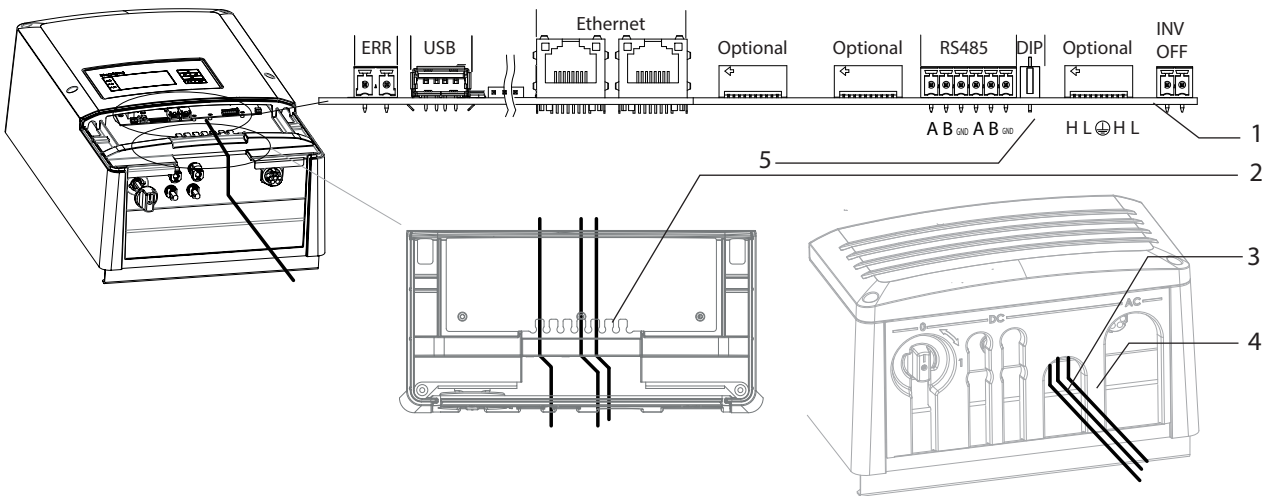

Figure 30: Connection area: Connection and assignment of the interfaces
All interfaces are located on the connection circuit board underneath the cover for the connection area. For connection, use the cable fittings and plug connections provided (see Figure 30 on page 25).
3. Connect the connection cables to the corresponding connection terminals (see Figure 30 on page 25).
6. Activate the terminating resistor on the terminal unit. (See Figure 30 on page 25)
1. Place the line over a notch on the cable anchoring rails (see Figure 30 on page 25).
3. Connect the connection cables to one of the corresponding Ethernet interface (see Figure 30 on page 25).
1. Insert the slider (see Figure 30 on page 25).